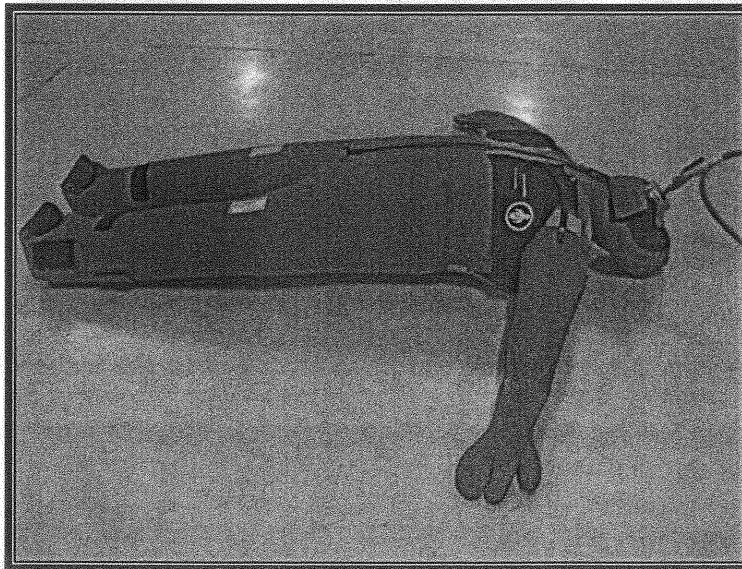

Figure 3-9
3. Open the valve on the headpiece to allow air from the compressor into the suit, filling it between 0.1 and 0.2 psi, or until firm to the touch (See Figure 3-9). Read the gauge attached to the headpiece to monitor the amount of pressure inside the suit. At the same time, look at the suit to see that it isn't slack or overfilled.